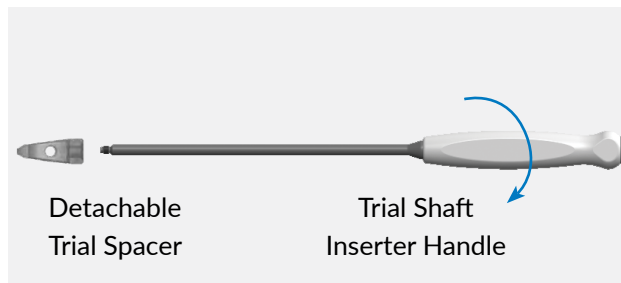
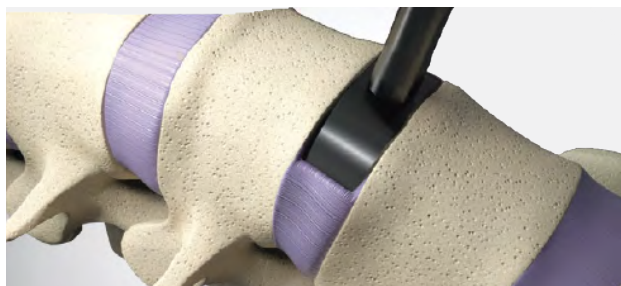

Figure 2
Figure 3
- The Fortilink®-A instrument set includes detachable trial spacers to provide guidance prior to implant selection. There are trial spacers available for all corresponding implant sizes. Select an appropriate size detachable trial head and assemble it to the trial shaft handle by threading the trial handle clockwise until the positive stop is reached (Figure 2). Trial markings indicate footprint size, height and angle of lordosis. The trial spacer should require minimum force to insert yet fit snugly within the disc space (Figure 3). Sequentially increase the trial spacer size until the appropriate fit is determined. Using the trial spacer as a guide, verify that appropriate height restoration is achieved with direct visualization and lateral fluoroscopy.